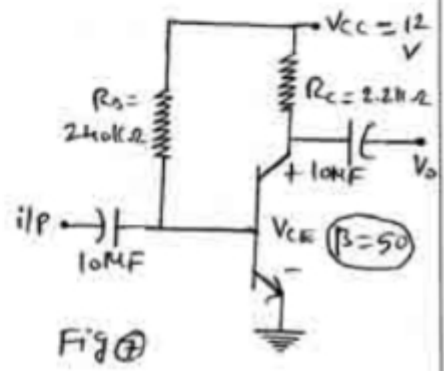

Fig 7
- III Determine the following for the biased-bias configuration of Fig 7.